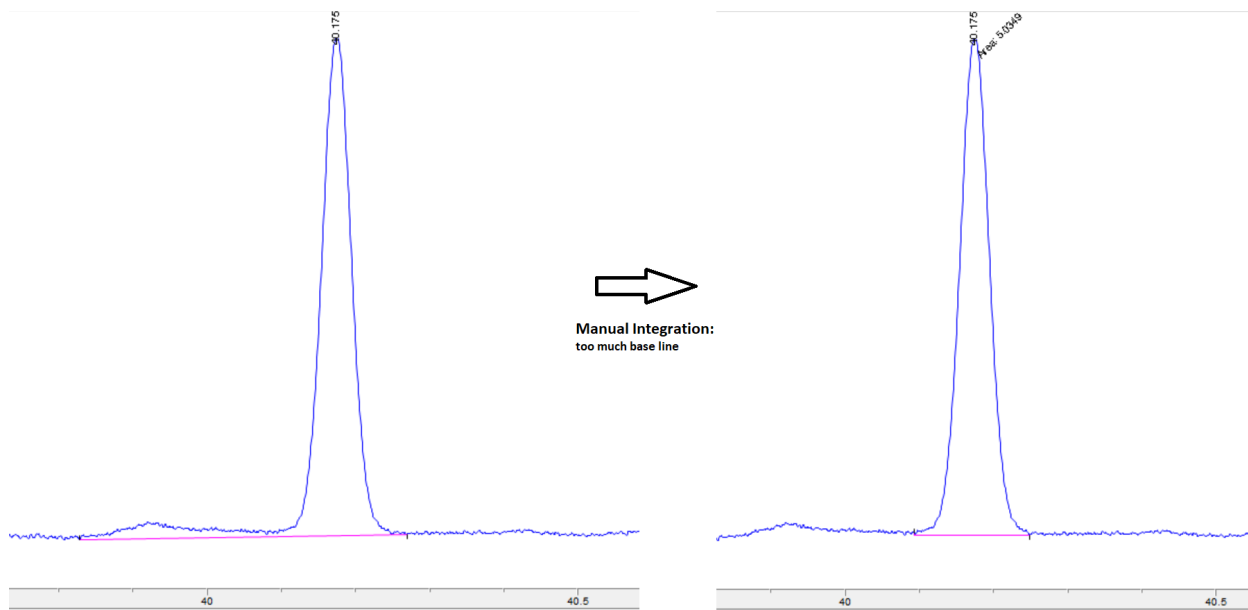

Figure 24: Agilent ChemStation Data Processing: Manual Integration Example
- 9 Select the integration tool and draw a baseline-to-baseline integration for the peak as demonstrated in figure 24: